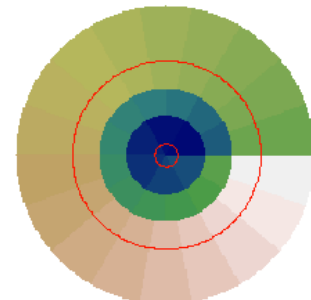

Figure 3: CWFS Subaperture map
- `wfs.nsubperring`: typically, to date, most of the curvature WFS for astronomy were based on a polar design: rings of subapertures. `wfs.nsubperring` is a pointer to a long vector that contains the number of subaperture per ring: the first element is the number of subapertures in the first ring, the second element the number of subaperture in the second ring, etc.. so that `wfs.nsubperring` could look like `&([6,12,18])` for a system with 3 rings of with 6, 12 and 18 subapertures (the & is because `wfs.nsubperring` is a pointer). yao automatically computes the inner and outer radius of each ring so that every subaperture receives the same amount of light. The user can modify this behavior by setting `wfs.rint` and `wfs.rout` to specify the inner and outer radius of each ring. (show/hide details). The subapertures are defined on an array, that is, each pixels of an array of the same size as `ipupil` belongs to one and only one subaperture. After an `aoinit()`, you can get a view of the subaperture number map (figure 3) by calling: